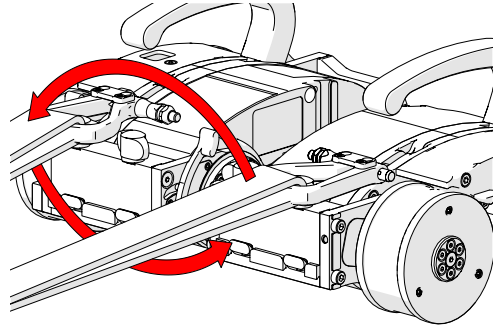

Fig. 84 - Proper shackle setup
2. Reverse the lifting sling and shackles (*Fig. 84*) so that the shackles are free to lay down flat, allowing for a low profile sling setup.